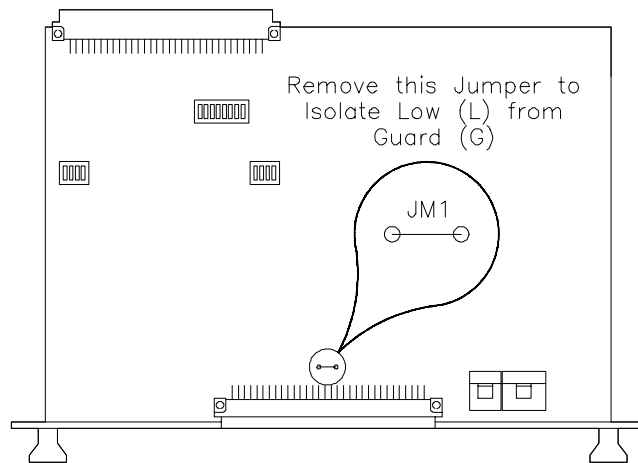

Figure 2-7. Removing the Isolation Jumper
Isolation jumper JM1 connects the Low (L) and Guard (G) commons together. To minimize errors caused by lead resistance in the low lines, you may want to remove the jumper. Use Figure 2-7 to locate the jumper.